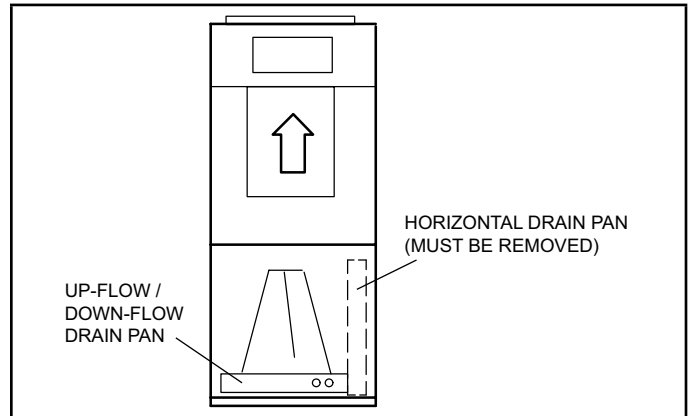

FIGURE 3. Upflow Configuration
- 4 - After removing the horizontal drain pan, place the unit in the desired location. Set unit so that it is level. Connect return and supply air plenums as required using sheet metal screws as illustrated in figure 3.